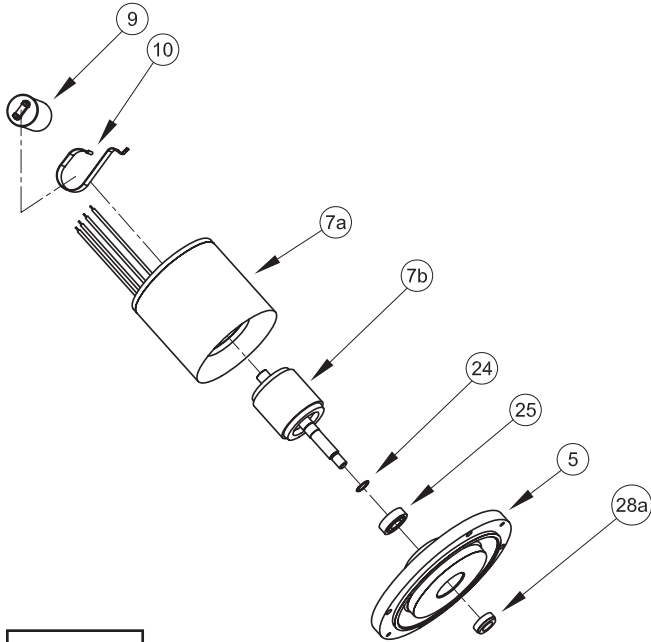

FIGURE 12
(25) and replace if required. If replacement is required, remove bearing (25) from motor shaft using a wheel puller or arbor press, see Figure 12